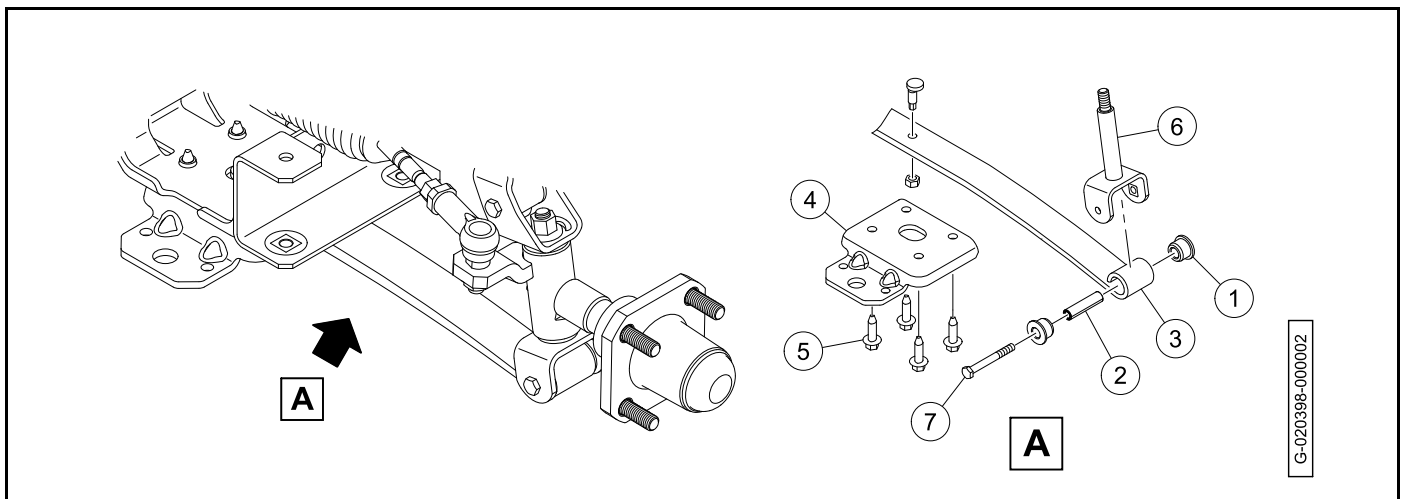

Figure 7-25
- Install the urethane bushings (1) and steel sleeves (2) into leaf spring eyes (Figure 7-25).